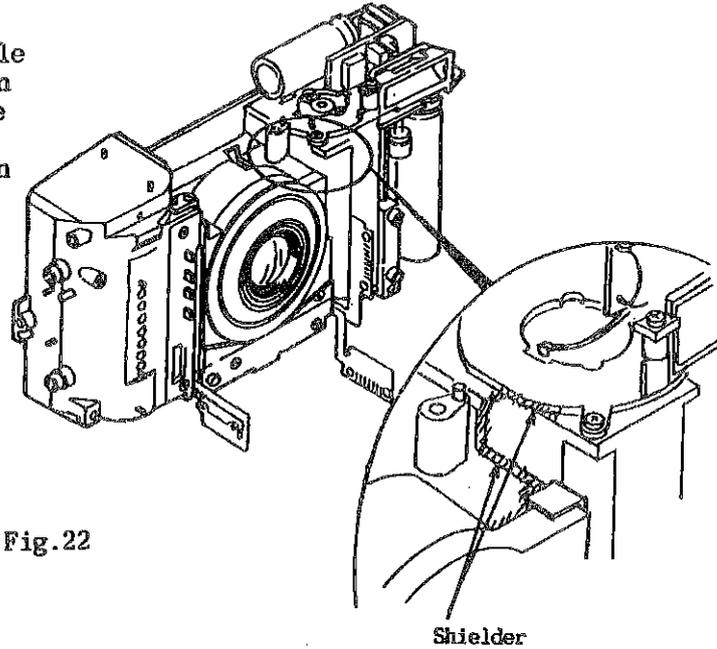

Fig.22
- b) Shielder is applied in the gap between the Winding Unit and the Body. (See Fig.22)
- a) Shielder is applied in the gap between the Collapsible Mount Ass'y and the Body. (See Fig.22)